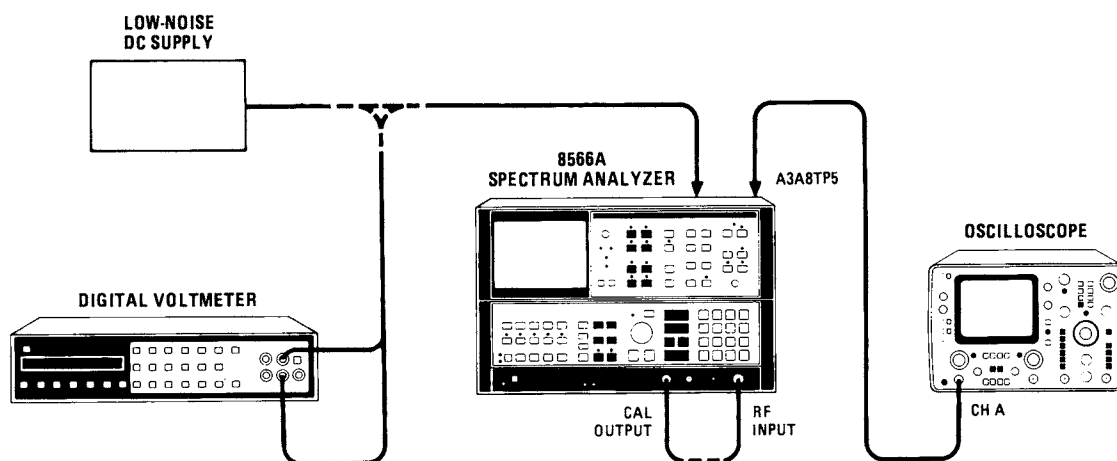

Figure 5-71. Analog-to-Digital Converter Adjustments Setup
1. Position instrument upright as shown in Figure 5-71. and remove top cover. Install A3A8 Analog-to-Digital Converter on extender.